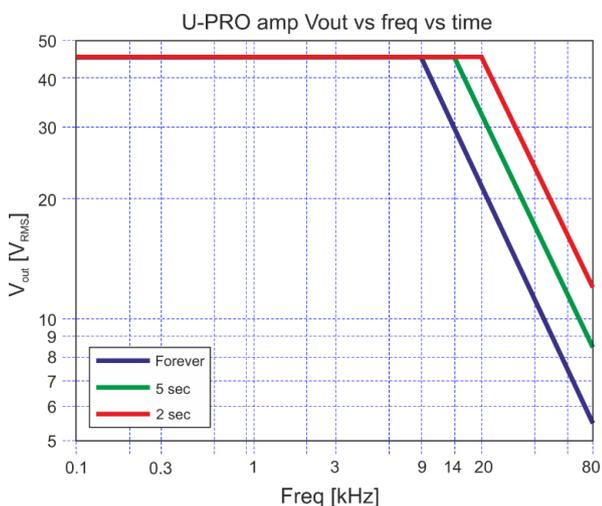

Figure 3-23: Max Vout vs. frequency vs. time
**HF Protection** - A high frequency protection is implemented in order to protect the amplifier output filter components from overload - refer to *Figure 3-23*. If a high frequency (and high amplitude) signal is present for a longer period of time, the module will enter HF protection and mute both amplifier outputs, until the internal protection timing allows the module to re-enable the amplifier(s).